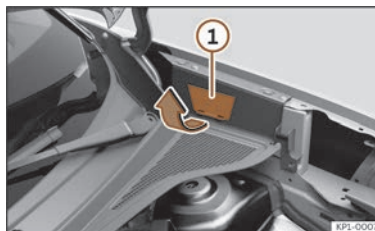

Fig. 63 Between the left wing panel and the engine bonnet hinge: Charging connector manual emergency release cover.
The puller for the manual release mechanism is on the left hand side of the engine compartment, above the charging socket >>> **Fig. 63**.
- Pull the tabs on the cover and slide the cover upwards >>> **Fig. 63**  to reveal the handle.